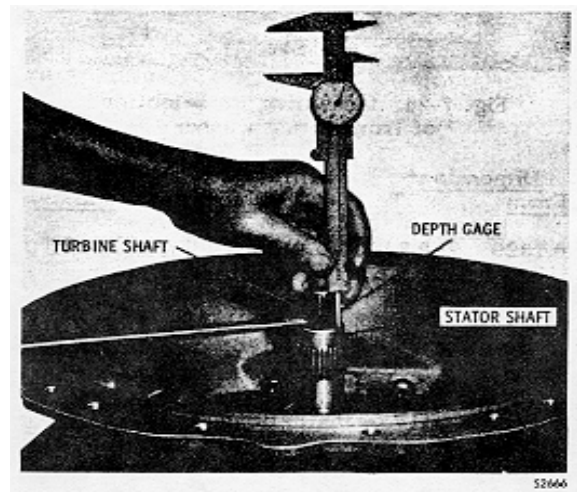

Fig. 7-28. Measuring turbine shaft end play
(7) Install nine 5/16-18 x 1 3/4-inch self-locking bolts, with nine new rubber coated washers, into the front support and transmission housing. Tighten the bolts to 13-16 lb ft (17-22 N•m).
(8) To check the turbine shaft end play, mount a vernier dial caliper on the turbine shaft. Raise the shaft, extending the depth gage to bear upon the stator shaft and record the dial reading (Fig. 7-28).
(9) Release the shaft and record the dial reading. If the dial reading does not fall within the desired end play range of 0.0053 (min) to 0.0337 (max.) (0.135 to 0.856 mm), the thickness of the selective thrust washer must be recalculated.
(10) Remove the compressor base, J-23630-2, installed in para 7-5a(11), from the transmission housing and output shaft.